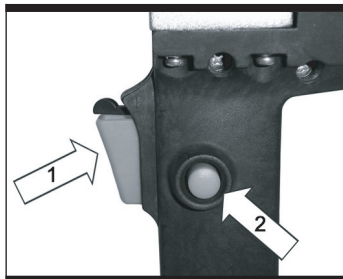

Fig 5
4. Operating the On/Off switch (see fig5)